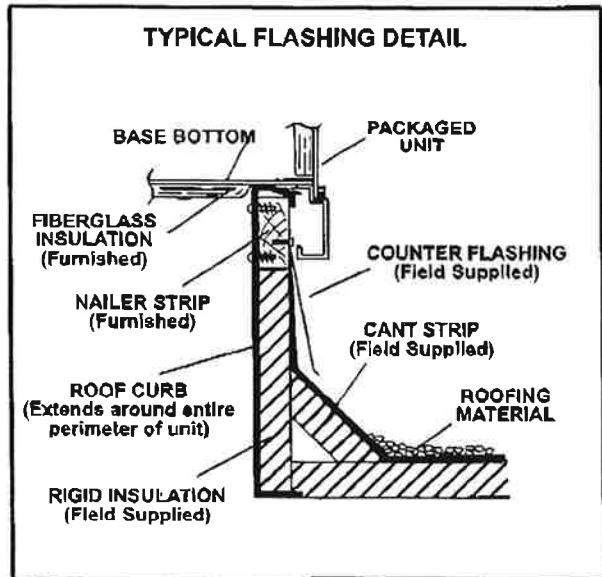

FIGURE 5
- 2- Counter-flash and seal around frame as shown in figure 5.